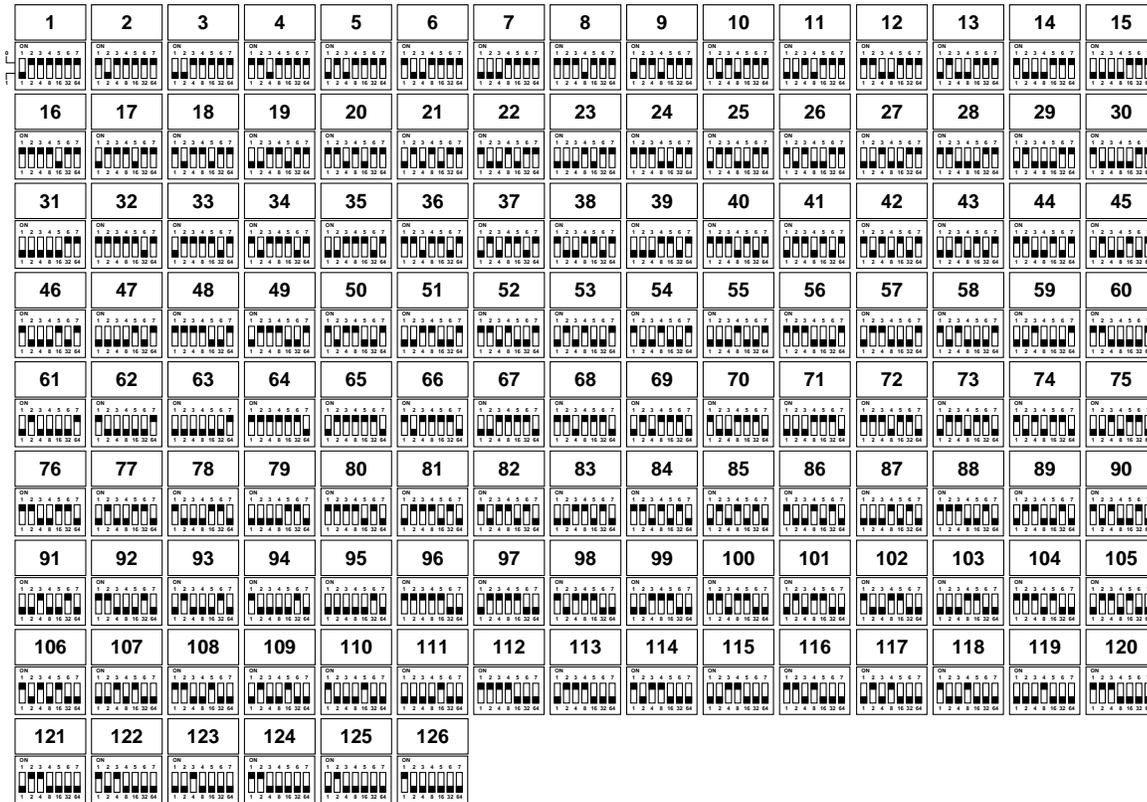

Figure 11 - DIP Switch Programming
Each Intelligent Module; Inputs, Outputs and Pull Stations are individually addressed using a DIP switch. Opposite is an example of a programming DIP switch for address 42, below is a chart giving the settings for each address. In DIP switch packages containing eight (8) switches, the eighth switch is for classification of wiring type [Class A or Class B] (see figure 11).